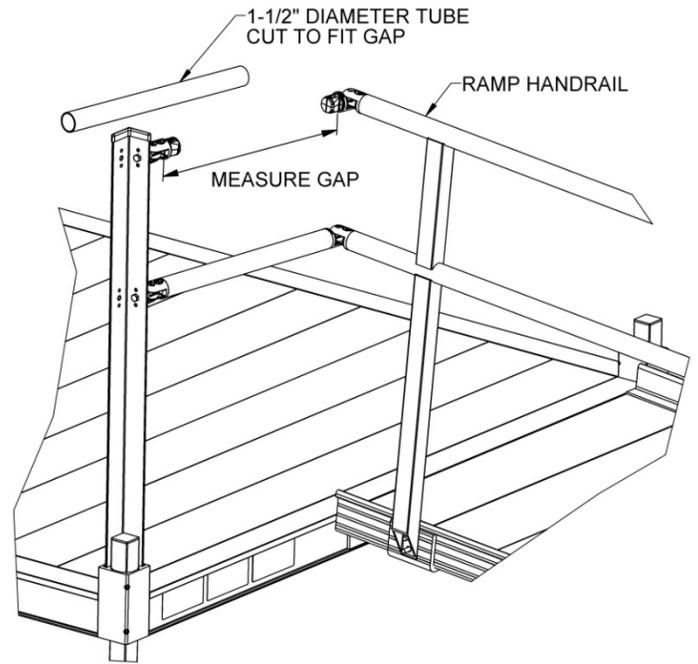

FIG. 6.10
- 6.2.6. Cut the 1 1/2” diameter round tube to the length measured (FIG. 6.10).